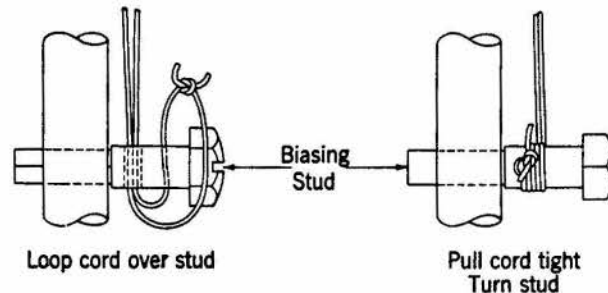

Fig. 11—Attaching Biasing Springs on Ringers
5.02 The procedures in Figs. 11 and 12 are recommended when attaching biasing spring cords.